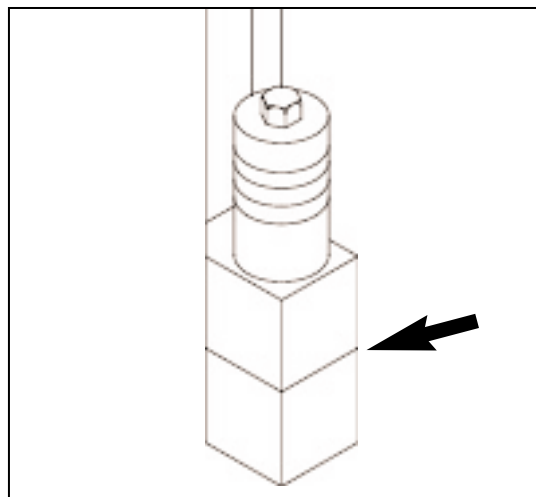

Figure 4.10 NO SPACERS
- e. Store spacers on bottom side of bolt for front bolts and left hand rear bolt. For right hand rear bolt store spacers on top. Tighten bolts at all 4 corners that secure mold throat plate spacers (see figure 4.10).